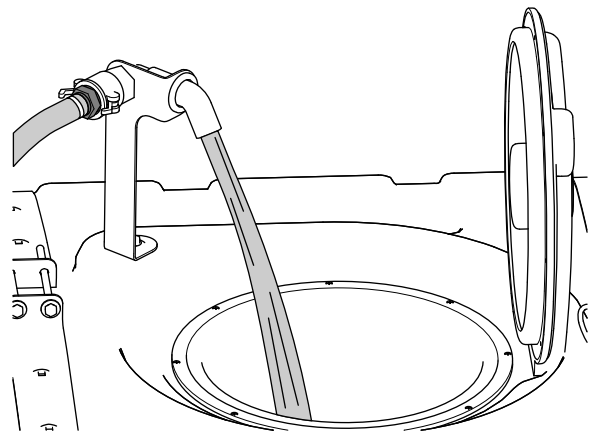

Figure 26
5. Add 3/4 of the required water to the spray tank (Figure 26).